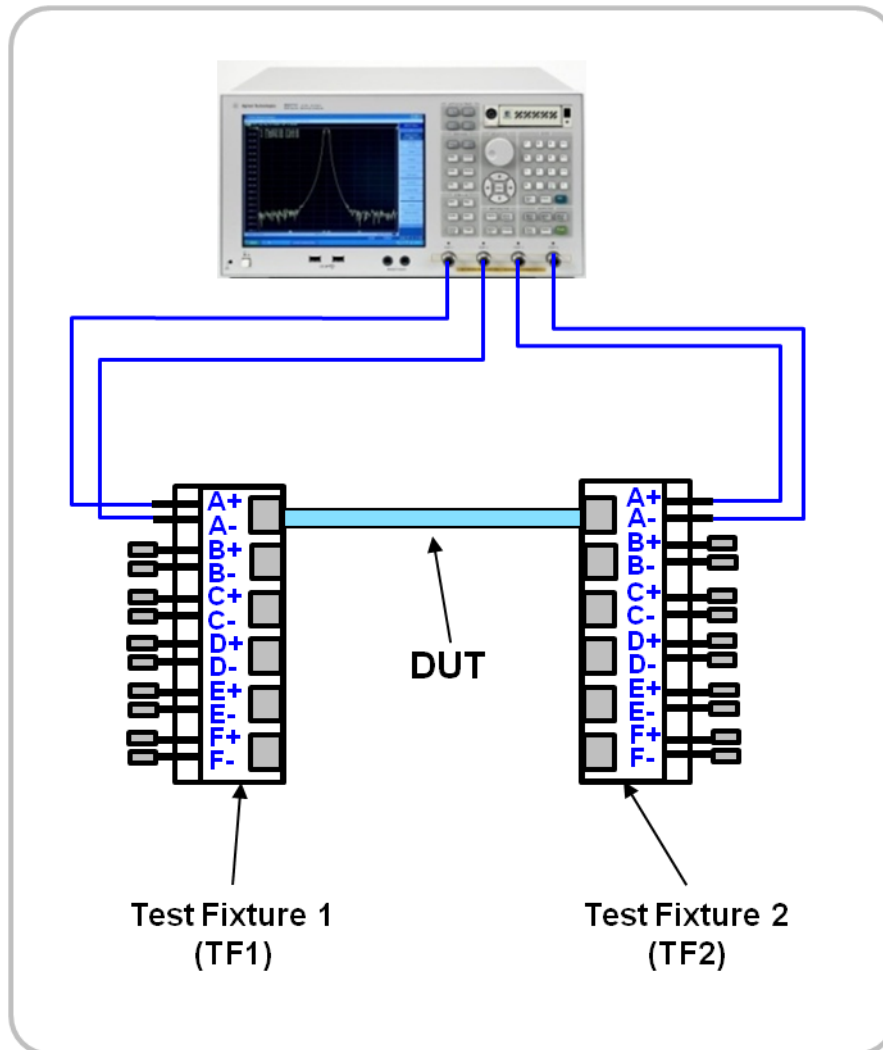

Figure 5-1 Characteristic Impedance Test Setup
1. Connect the DUT to the ENA (Figure 5-1).
1. Connect DUT to the ENA (Figure 5-1).
12. Connect DUT to the ENA (Figure 5-1).